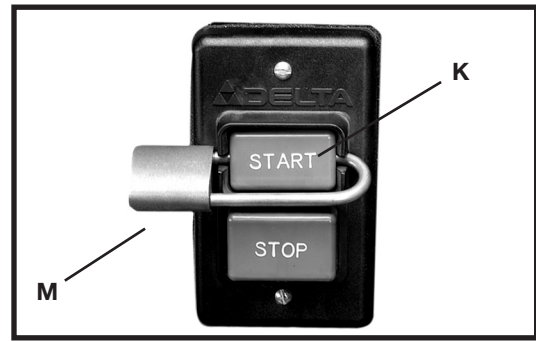

Fig. 18
CAUTION When the machine is not in use, the switch should be locked in the “OFF” position to prevent unauthorized use, using a padlock (M) Fig. 18 with a 3/16" diameter shackle